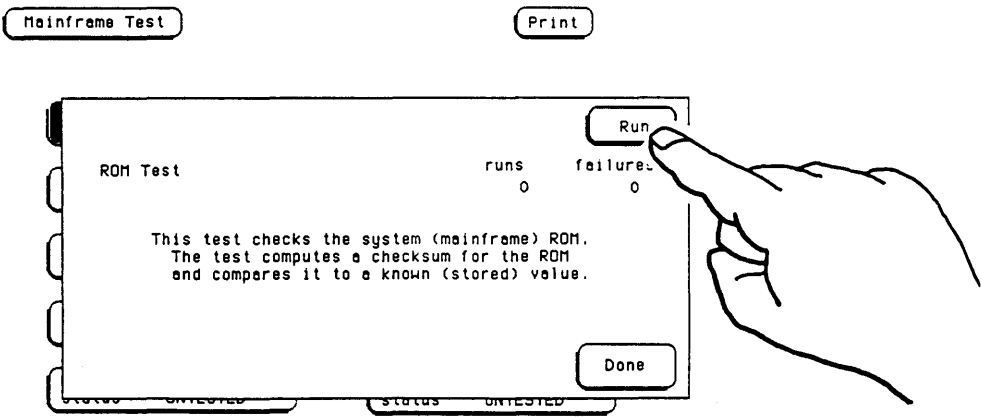

Figure 6-11. ROM Test Screen
- b. Touch the ROM Test field. The ROM Test screen will be displayed (figure 6-11).